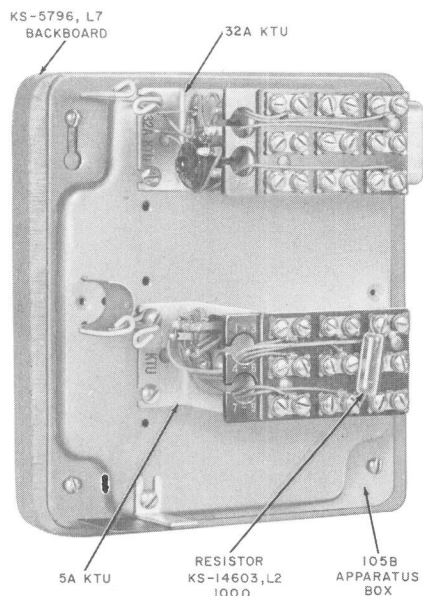

Fig. 2—Battery Feed Filter and Holding Relay Equipment
3.05 When required, the 5A and 32A KTU's (Fig. 2) may be located remotely from the subscriber set and 6026-type key.